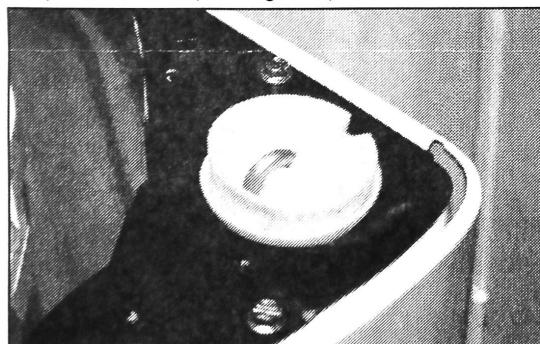

FIGURE 2
6. Attach Suspension Balls, included with the kit, to the Damper/Suspension Rods. (See *Figure 2*)